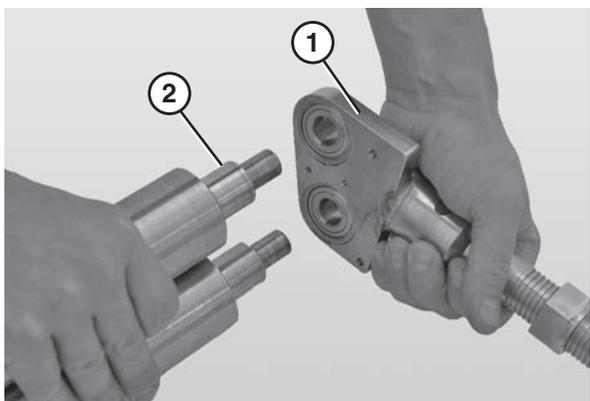

Figure 91
- Slide the nose bar shafts (Figure 91, item 1) off the nose bar spindles (Figure 91, item 2).